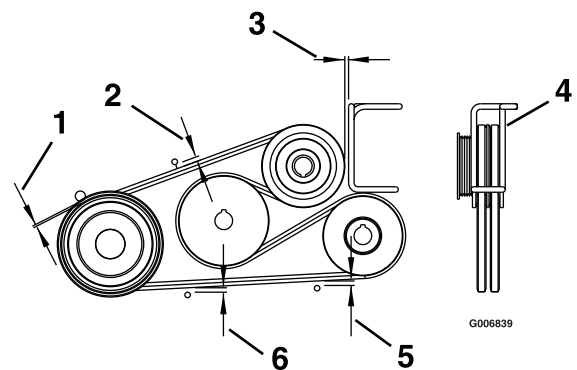

Figure 11
3. Adjust belt guides as shown in Figure 11.